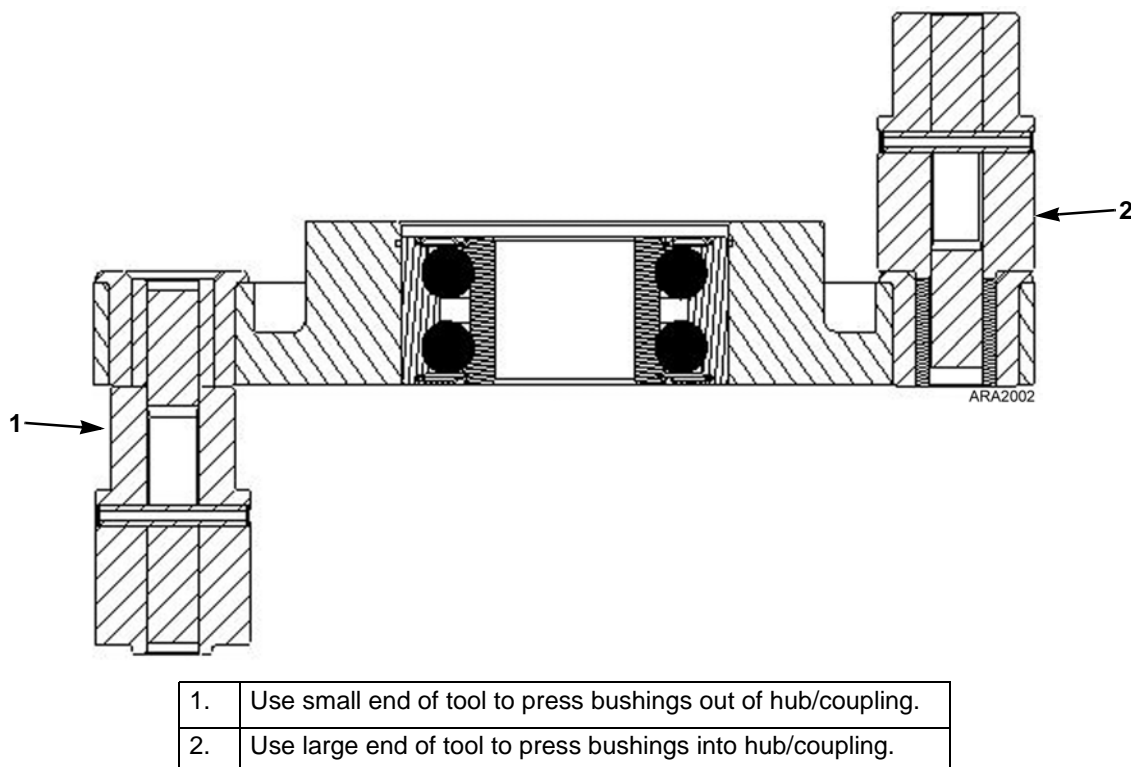

Figure 206: Bushing Replacement with Bushing Replacement Tool 204-1955
10. Use the small diameter end of the Bushing Replacement Tool 204-1955 to press the old bushings out of the clutch hub/coupling (see Figure 206).
- 14. Use the large diameter end of the Bushing Replacement Tool 204-1955 to press the new bushing into the hub/coupling until the flange on the bushing contacts the hub/coupling. Press the new bushing into the hub/coupling from side of the hub/coupling that faces the flywheel (see Figure 206).